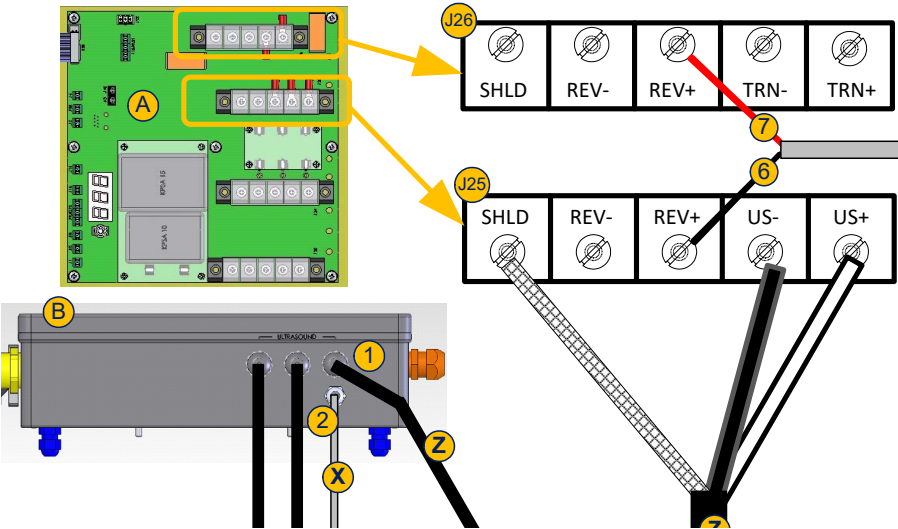
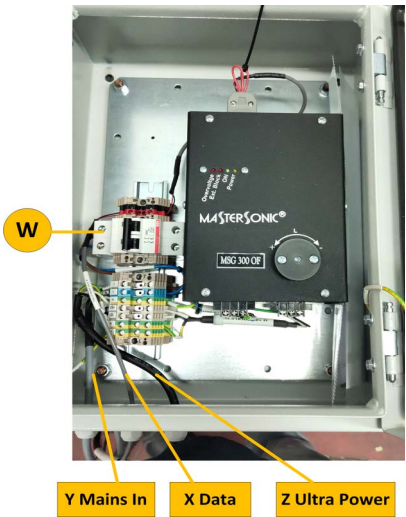

Figure 5-31: Ultrasonic Cleaner Cable Connections in the Connection Box
Figure 5-32: Ultrasonic Cleaner Module - Inside View
- Step 1.** The Ultrasonic Cleaner cable (marked **(Z)** in **Figure 5-31** above) is connected in the Connection Box #1 to terminal **(J25)** from the factory. From the Connection Box, extend the Ultrasonic Cleaner cable **(Z)** to the Ultrasonic Cleaner Module and thread it through gland in **Figure 5-32**.
- Step 4.** From the Ultrasonic Cleaner Module, extend the Control cable (marked **(X)** in **Figure 5-31** above) to the Atlantium Unit and thread it through gland **(2)** on the Connection Box #1 **(B)**.